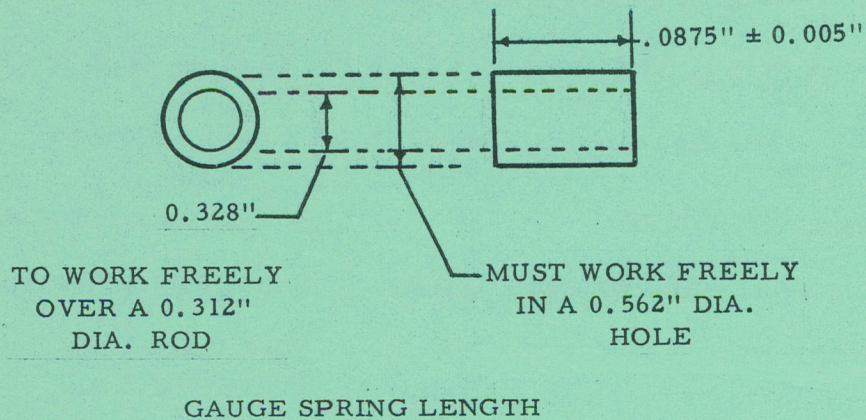

Figure 1 (Issue 1)
2 Manufacture locally from available materials the spring length gauge as detailed in Figure 1 and retain for further installations. Refer to EO 40-10BL-4 Parts List for parts identification. The following is the sequence of operations:-
- (1) Nut AN364-428C.
- (2) Washer AN960-416.
- (3) Spring 883154.
- (h) Temporarily fit gauge (manufactured as detailed in Figure 1) in armature cavity and install washer AN960-416 and nut AN364-428C (removed in para. 2(c)).